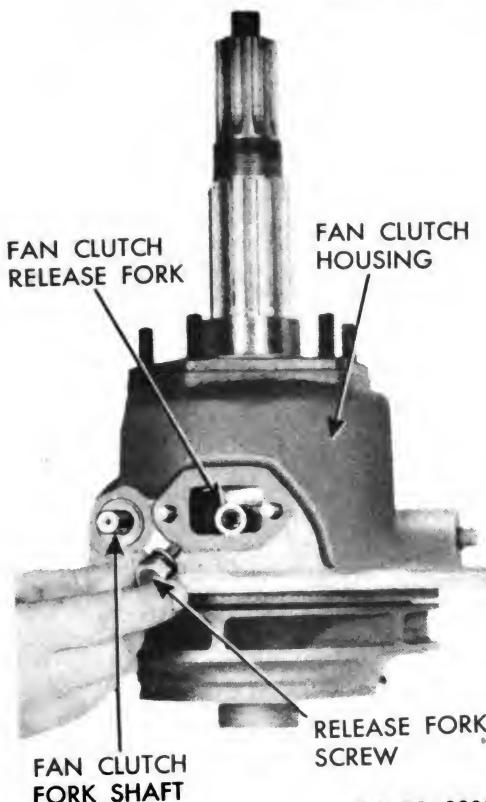
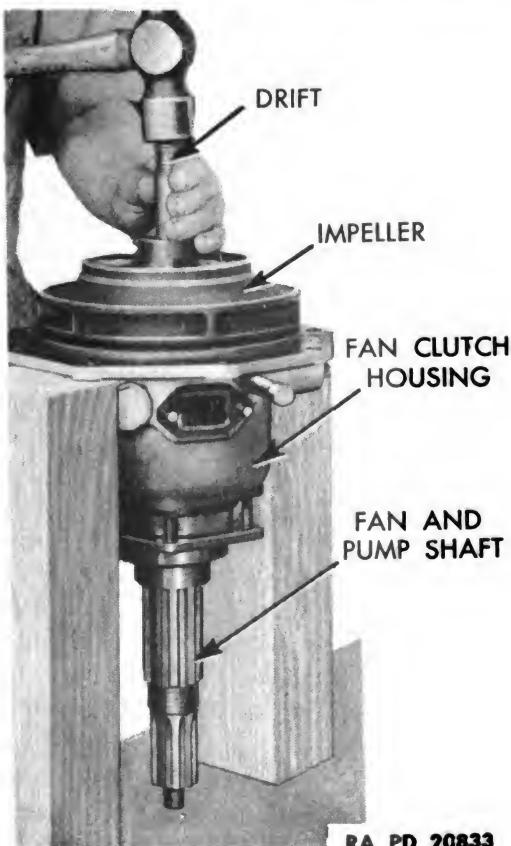

Figure 102 —
Figure 103 —
b. Remove Fan and Pump Shaft Assembly. Remove five nuts and lock washers attaching pump bearing retainer, and remove retainer with oil seal (fig. 99). Drive out impeller retaining pin with a punch (fig. 100). Remove four nuts and lock washers attaching two fan clutch housing covers, and remove covers and gaskets (fig. 101). Reaching through housing cover openings, remove two fan clutch release fork screws and lock washers (fig. 102). Supporting fan clutch housing on two blocks of wood, drive fan and pump shaft out of impeller with suitable driver (fig. 103). Fan and pump shaft assembly can now be lifted from fan clutch housing (fig. 104).
c. **Install Fan and Pump Shaft Assembly.** Shellac new gasket to front face of fan clutch housing, and insert fan and pump shaft assembly in housing (fig. 104). Secure fan clutch release fork to release collar with two release fork screws and lock washers, working through clutch housing cover openings on either side (fig. 102). Install two fan clutch housing covers with new gaskets, and secure with four nuts and lock washers (fig. 101). Shellac new gasket on outer ball bearing retainer, and install bearing retainer with oil seal (fig. 99). Secure with five nuts and lock washers. Support fan clutch housing in upright position with impeller end up on two blocks of wood. Line up pin holes in impeller with pin hole in shaft, and press impeller onto shaft. Secure impeller to shaft with pin, and rivet both ends of pin.